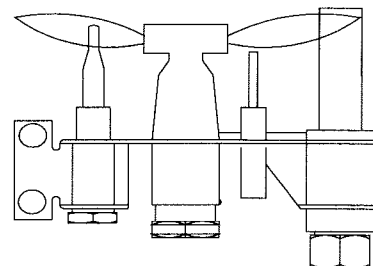

Figure 26. Pilot Burner
2. Adjust pilot key to provide properly sized flame. (See figure 26.)